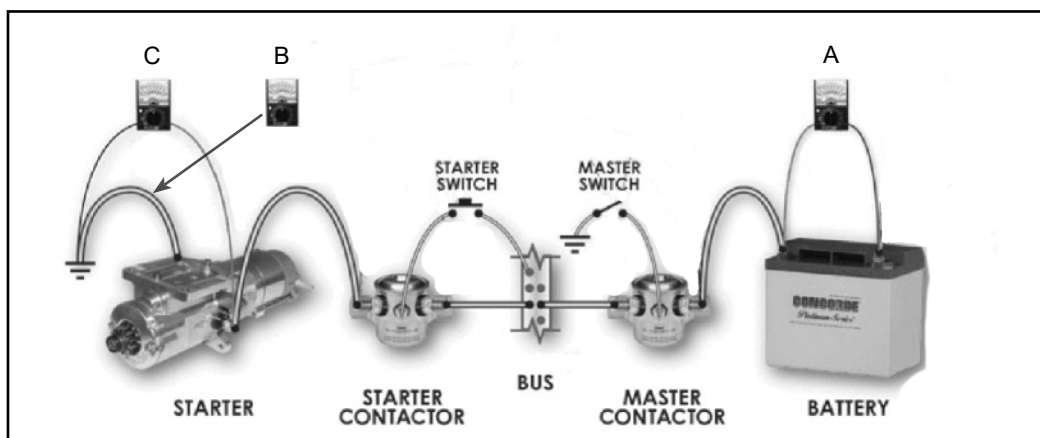

Figure 3-1 - Typical Starter Troubleshooting Diagram
- A. Visually inspect the starter and starter system components for frayed and/or burnt wiring and loose connections. Correct any defects noted. See Fig. 3-1 for component diagram.
- (1) Ground the magneto P-leads by connecting an electrical conductor from the P-lead terminal to the airframe ground. This will prevent the magneto from making a spark.
- (2) Set fuel mixture to the Lean Cut-Off position.
- (3) Set electrical boost pump to the OFF position.
- (4) Set fuel selector valve to the OFF position.
- C. Perform the following resistance/voltage checks using a VOM to determine where in the system the problem is originating. (refer to Fig. 3-1 for items A thru C)
- (1) Connect the VOM between the negative and positive post of the battery (A) and record the voltage reading. Voltage reading should be a minimum of 9 volts on a 12/14 volt battery and 18 volts on a 24/28 volt battery. If the battery voltage is low, refer to the applicable aircraft/engine maintenance manual to recharge or replace the battery.
- (2) Connect the VOM probes between the airframe and the housing of the starter (B). Record the resistance reading. Maximum resistance allowed is 0.2 ohms. If greater than 0.2 ohms, investigate the engine to airframe ground.